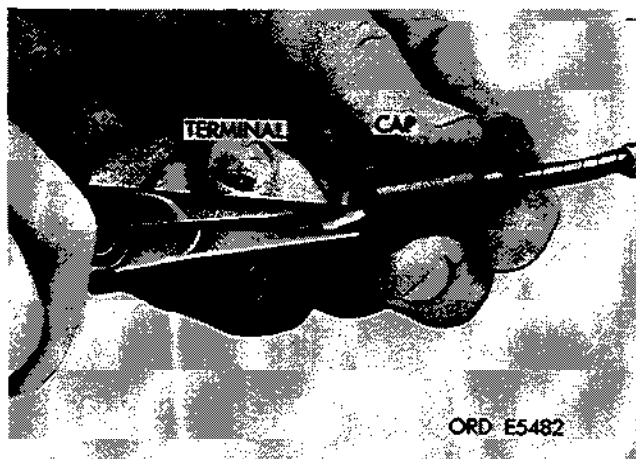

Figure 2-223. Pull terminal out of rubber cap.
All repairs to electrical cables will be made in accordance with TB ORD 650. Terminals of braided cables will not be repaired. Figures 2-223 and 2-224 show operations for exposing the male terminals. Damaged terminals will be removed and new terminals soldered or crimped in place. To expose female terminals of cables, simply pull the rubber waterproof cap toward center of the cable away from the terminal.
(1) Use suitable tool and pull terminal out of rubber cap (fig. 2-223).